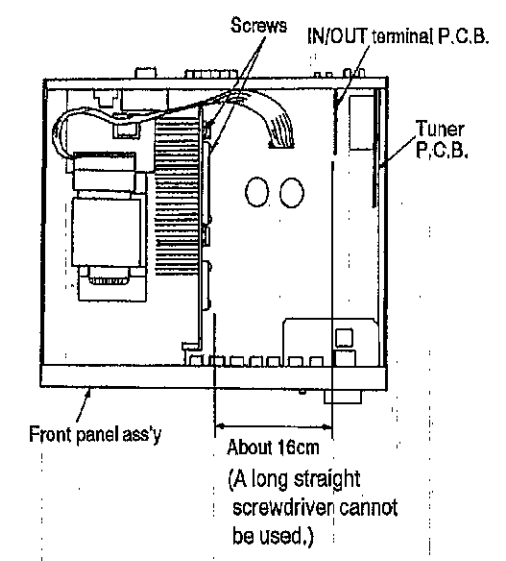

Fig.1
(Fig. 1)
1. Release the 3 claws.(See Fig. 1)
1. A long straight screwdriver cannot be used for removal or mounting since its long grip interferes with the neighboring P.C.B. (See Fig.1)